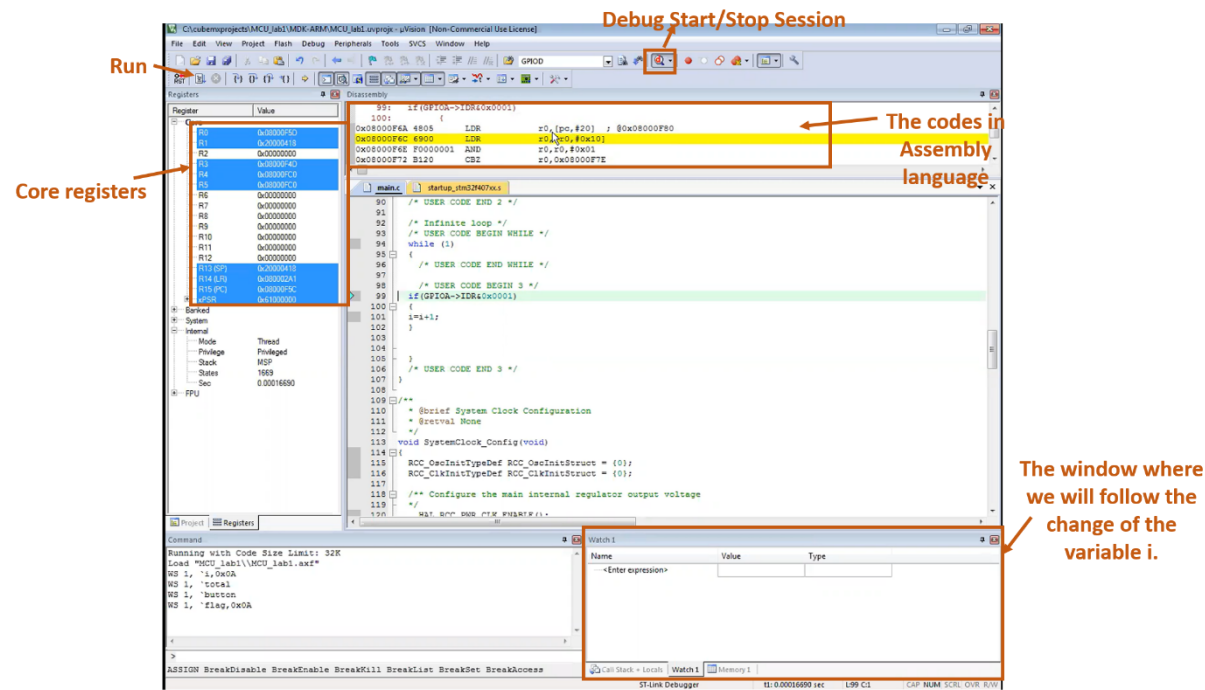
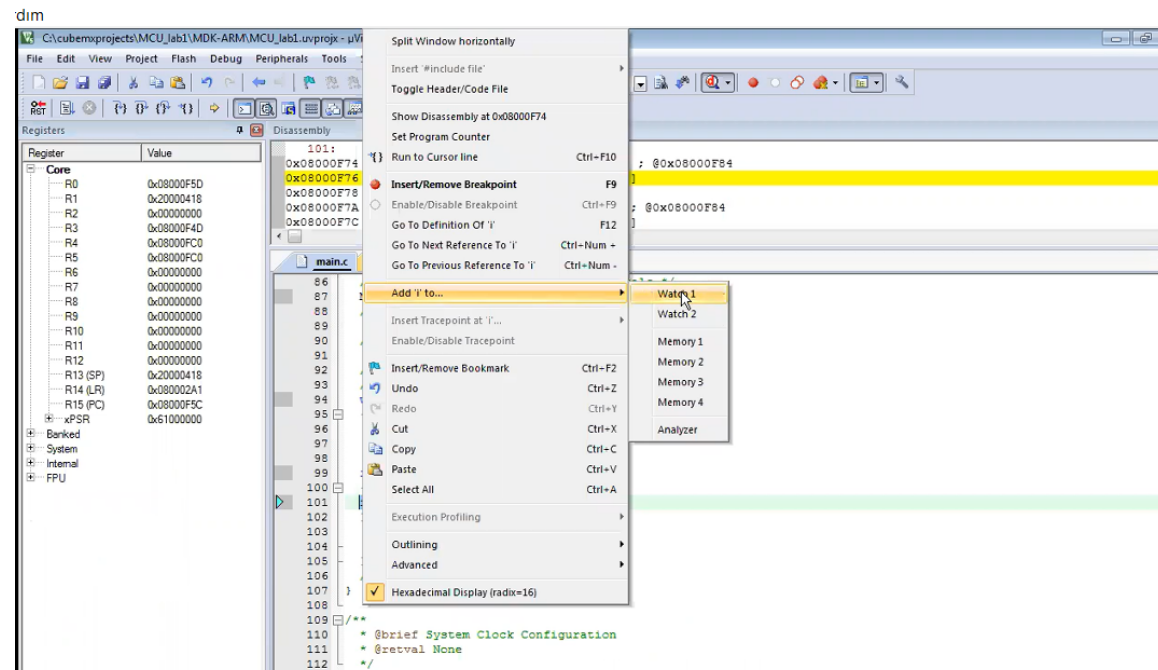

Figure 1
Figure 2
1. Reading Button Value (Button debouncing). You can understand whether your code is running and control the changes of the variable using debug (Figure 1->Start/Stop Debug Session) using the debugger. Come to the i variable and right click. We select “Add i to” and “Watch 1” (Figure 2). Then click to “Run” and follow the changes of variable i (Figure 1). Right-click on the i which is in the Watch 1